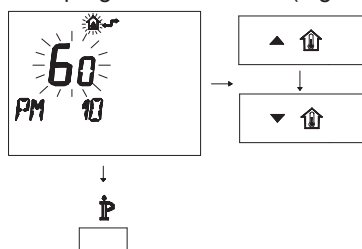

Fig. 8.29
- To modify the programmed SET, act on buttons **▲** and **ON/OFF** or **▼** and **ON/OFF** and wait for the number programmed to flash (Fig. 8.29).